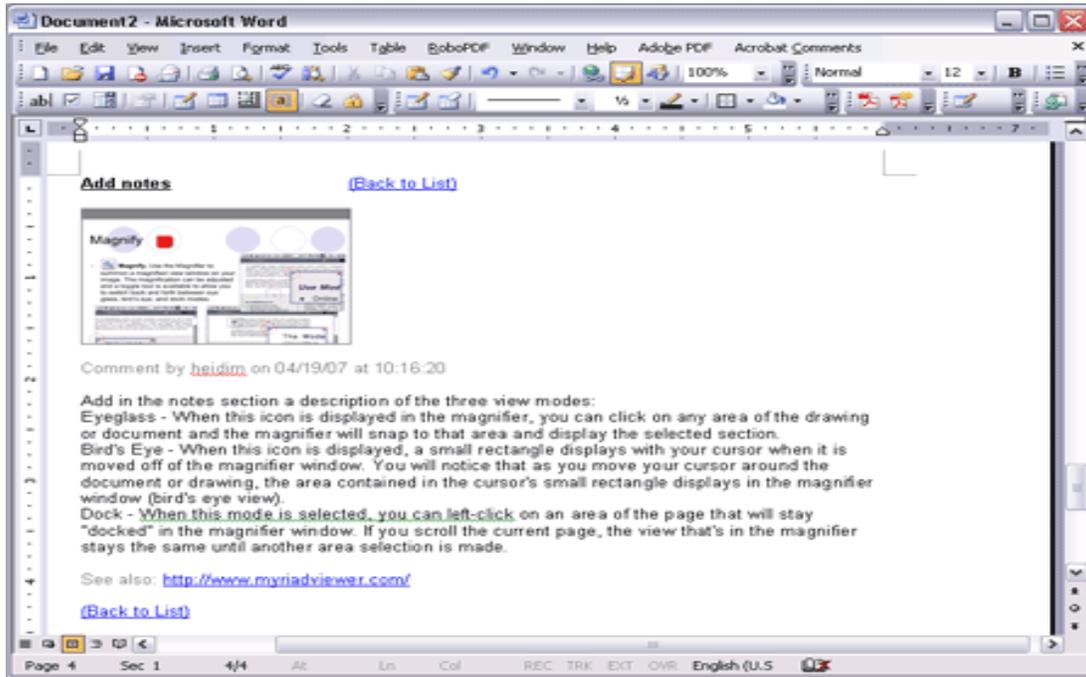

Figure 37.2 Changemark Information Pasted into Word
- 7) The system will copy the data to the clipboard. Open a blank Word document, right-click in the document and select **Paste**. Figure 37.2 shows an excerpt of the result.